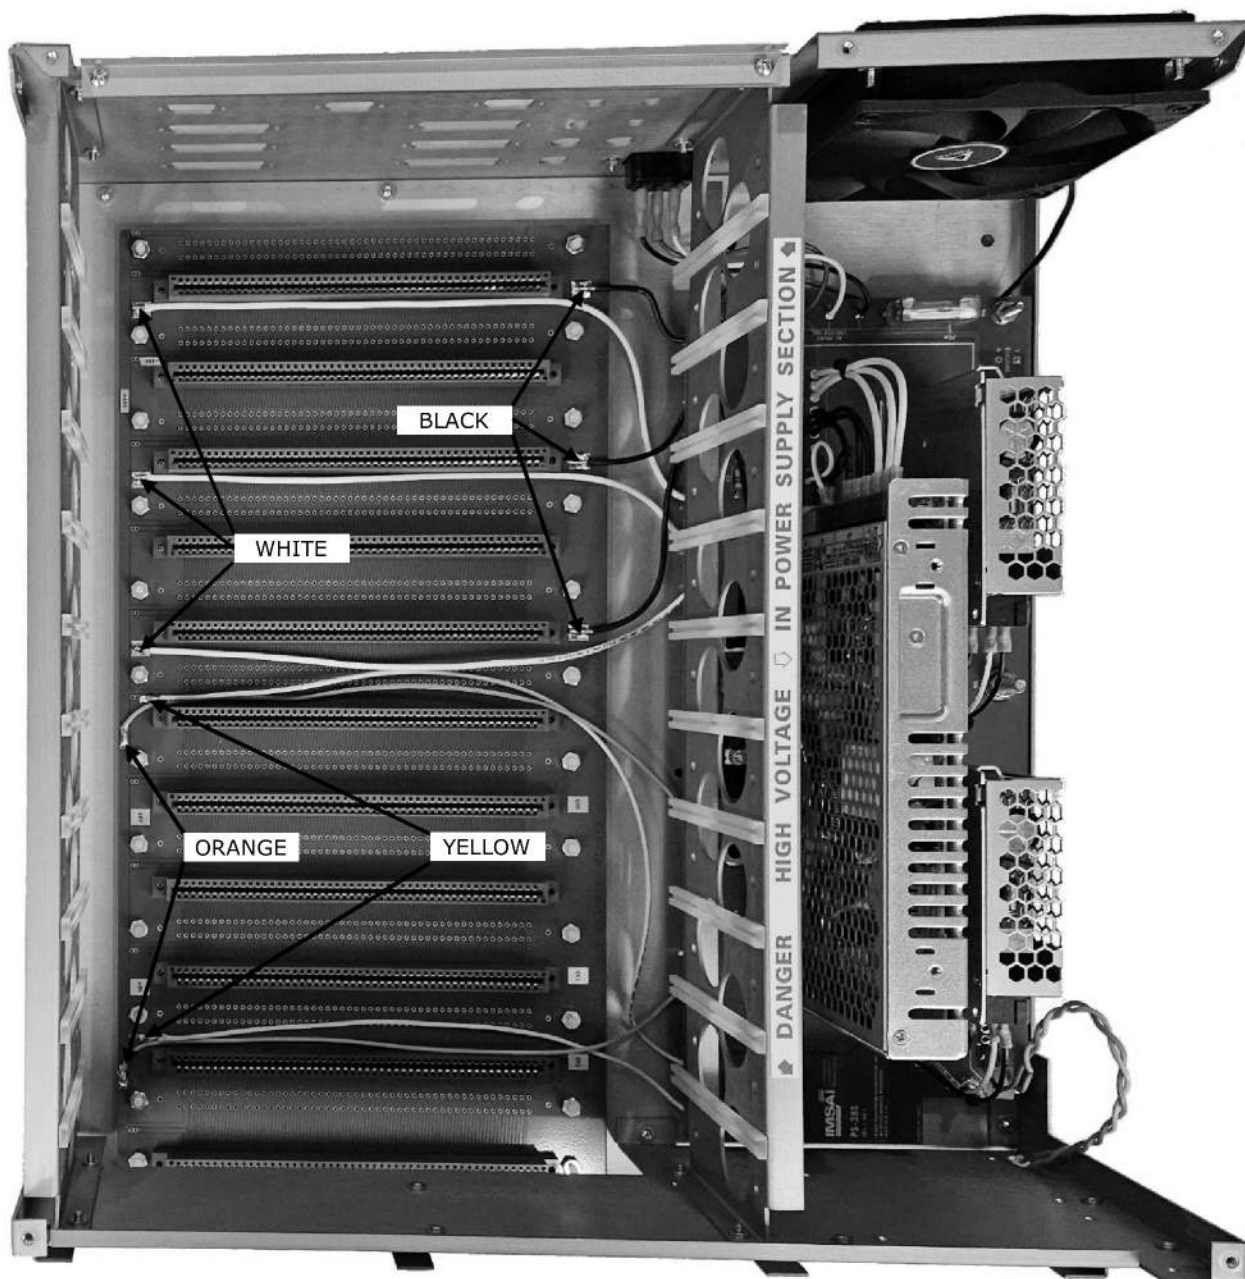

Figure 3. EXP-22 Wiring Overview
If you have not mounted the power supply in the cabinet, mount it now or at least place it in the power supply bay where it will ultimately be mounted. The procedure is to solder a wire to an EXP-22 pad and cut the wire to the proper length to the power supply and finally solder all the wires to their corresponding power supply pads. Refer to FIGURE 3.
- ☐ Repeat the above procedure with the next two +8V pads. This should use up most of the white wire supplied. Refer to FIGURE 3.
- ☐ Repeat the above procedure with the next two GND pads. This should use up most of the black wire supplied. Refer to FIGURE 3.
- ☐ Repeat the above procedure with the front -16V pad. This should use up most of the yellow wire supplied. Refer to FIGURE 3.
- ☐ Locate the length of orange #18 hookup wire. Strip approximately ¼ inch (6 mm) from one end. Tin the stripped end with solder. Apply a generous amount of solder to the center +16V rectangular pad. Holding the wire with needle nose plier, reflow the wire onto the pad with the wire heading toward the back of the cabinet. Route the wire across the backplane. Refer to FIGURE 3. Locate a +16V power supply pad and cut the wire to length.